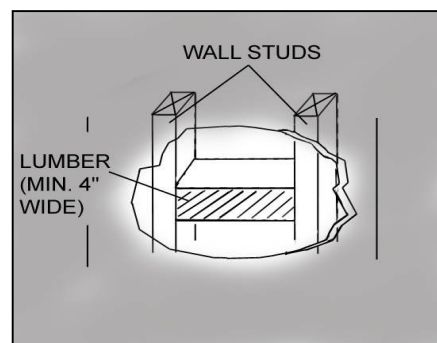

Figure 22
- If necessary, prepare back wall frame with cross framing lumber for secure installation. Using references on Table 2 and measurements on page 21-22, decide the level of the lumber. Refer to Figure 22.